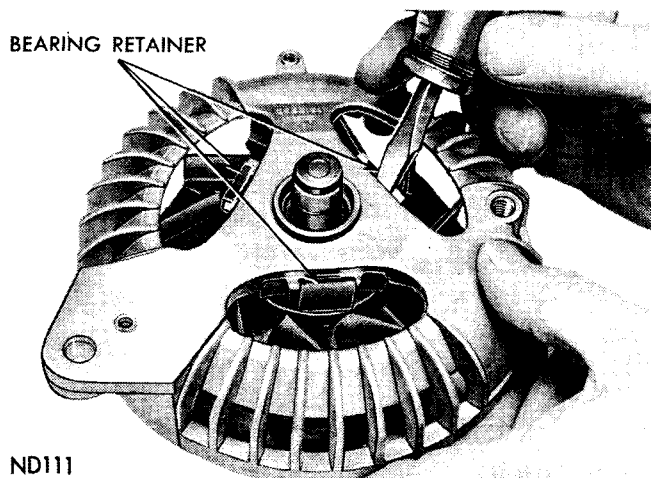

Fig. 23—Disengaging Bearing Retainer From End Shield
- (2) Pry drive end bearing retainer from end shield with a screwdriver (Fig. 23).
- (3) Support end shield and tap rotor shaft with a plastic hammer to separate rotor from end shield.
- (4) The drive end ball bearing is an interference fit